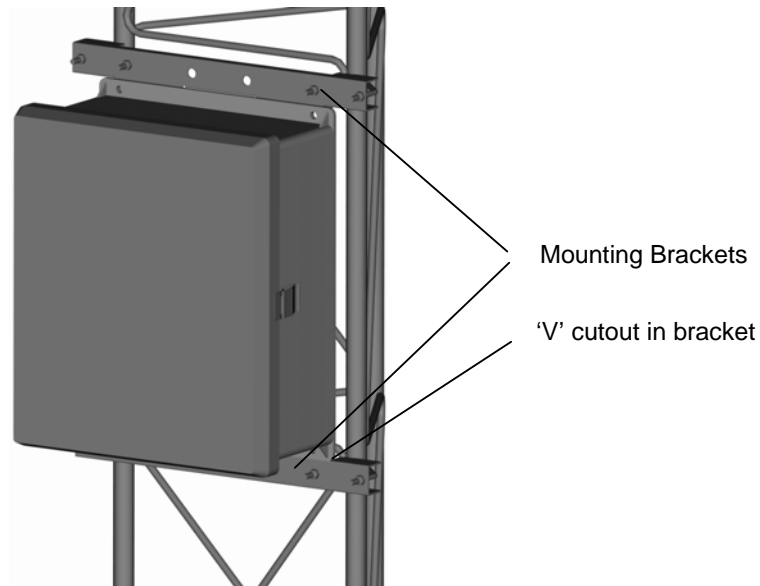

Figure 2-10 Fitting the Enclosure
1. Mount one bracket on the top two holes of the enclosure and the other on the two bottom holes. The 8mm bolts supplied are used to attach the brackets. Fit the brackets with the 'V' cut-outs pointing away from the back of the enclosure. See Figure 2-10, below.